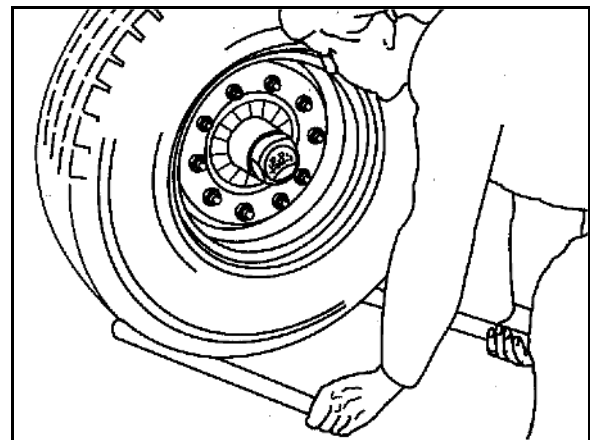

Fig. 119
1. To check the play on wheel hub bearings, raise the axle until the wheels turn freely (Fig. 119).